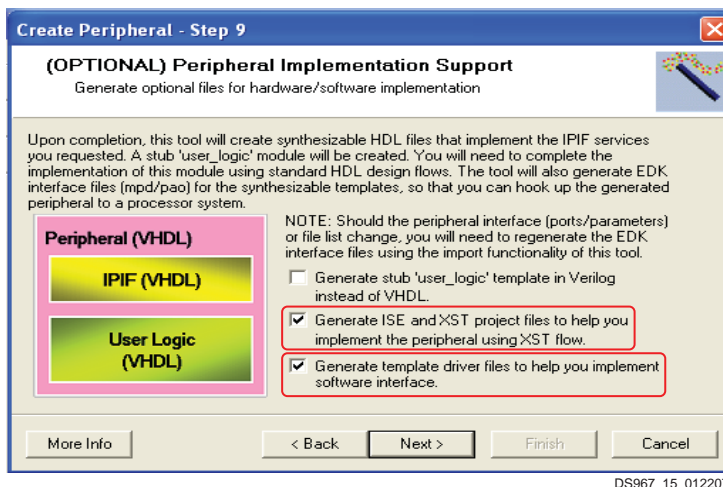

Figure 15: ISE Project Generation for the IP and Drivers Template
13. In the (Optional) Peripheral Implementation Support window, make the selections as shown in Figure 15 to control how optional files for hardware and software implementation are generated. Select **Generate ISE and XST Project Files to help during the implementation of the Peripheral using the ISE Environment** to set up the required synthesis libraries in the ISE Project. Select **Generate template driver files to help you implement software interface** for help in customizing the IP software interface later in the software application. Click **Next**.